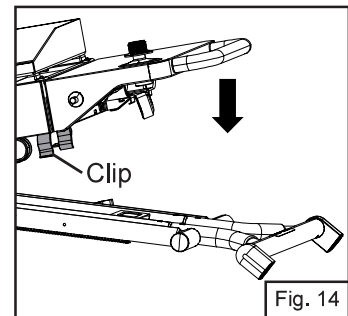

Fig. 14
2. Press the appliance firmly downward until legs lock into clip (Fig. 14).